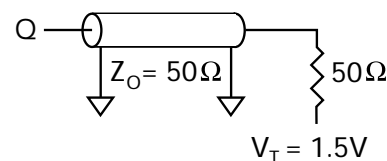
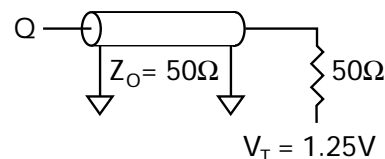

Figure 1
Figure 3
- Test conditions as specified with the output loading shown in Figure 1 for +3.3V I/O ($V_{DDQ} = +3.3V \pm 0.165V$) and Figure 3 for 2.5V I/O ($V_{DDQ} = +2.5V \pm 0.125V$) unless otherwise noted.
| Output load | See Figures 1 and 2 |
| Output load | See Figures 3 and 4 |